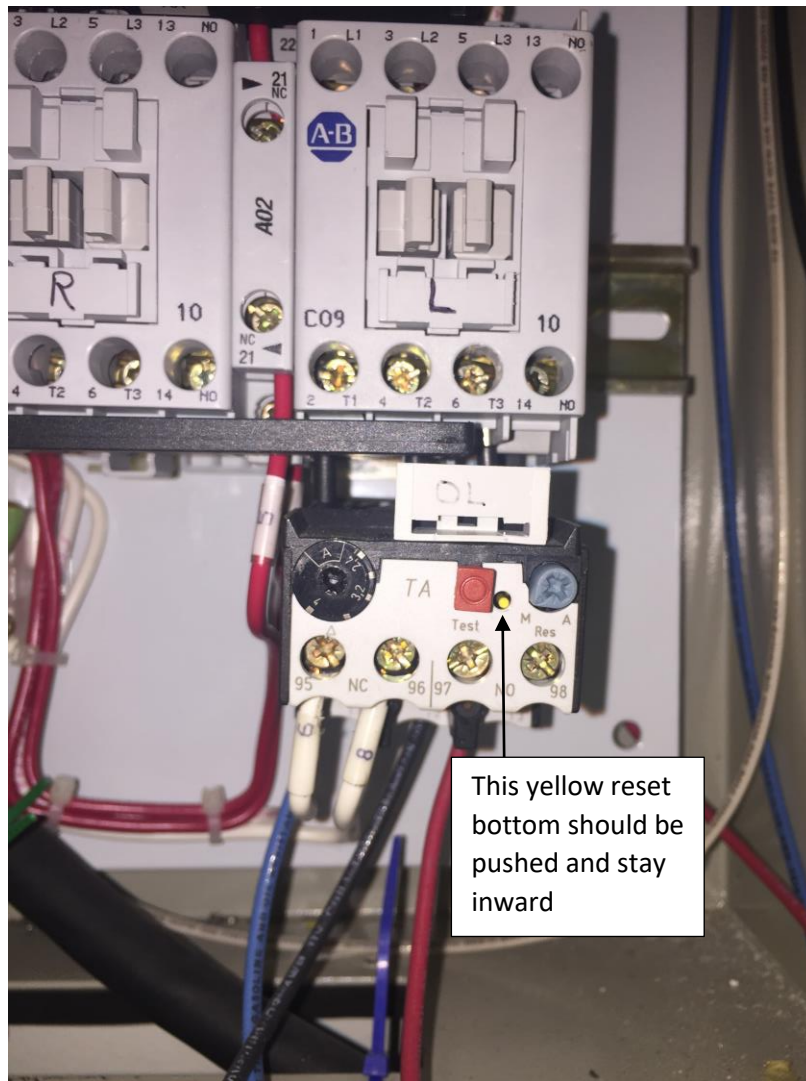

Figure 4. The reset component is most likely to cause the issue.
- (1) Turn off the Duff-Norton switch in the main fuse box. Open the control box panel and visually check if there is any fuse blown. If so, replace them.
- (2) Make sure the yellow reset bottom (shown in figure 4) is pushed in.